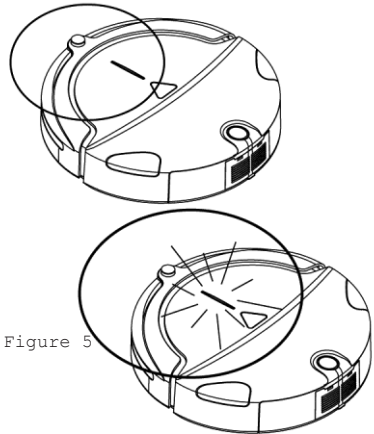

Figure 5
6. After the battery's power used up, the indicator will flash gradually; When the indicator becomes normally on, it means the battery is charged fully. (See Figure 5)
3. Reverse the blower, release 2 fasteners and open the cover. (Refer to Figure 4 and Figure 5)